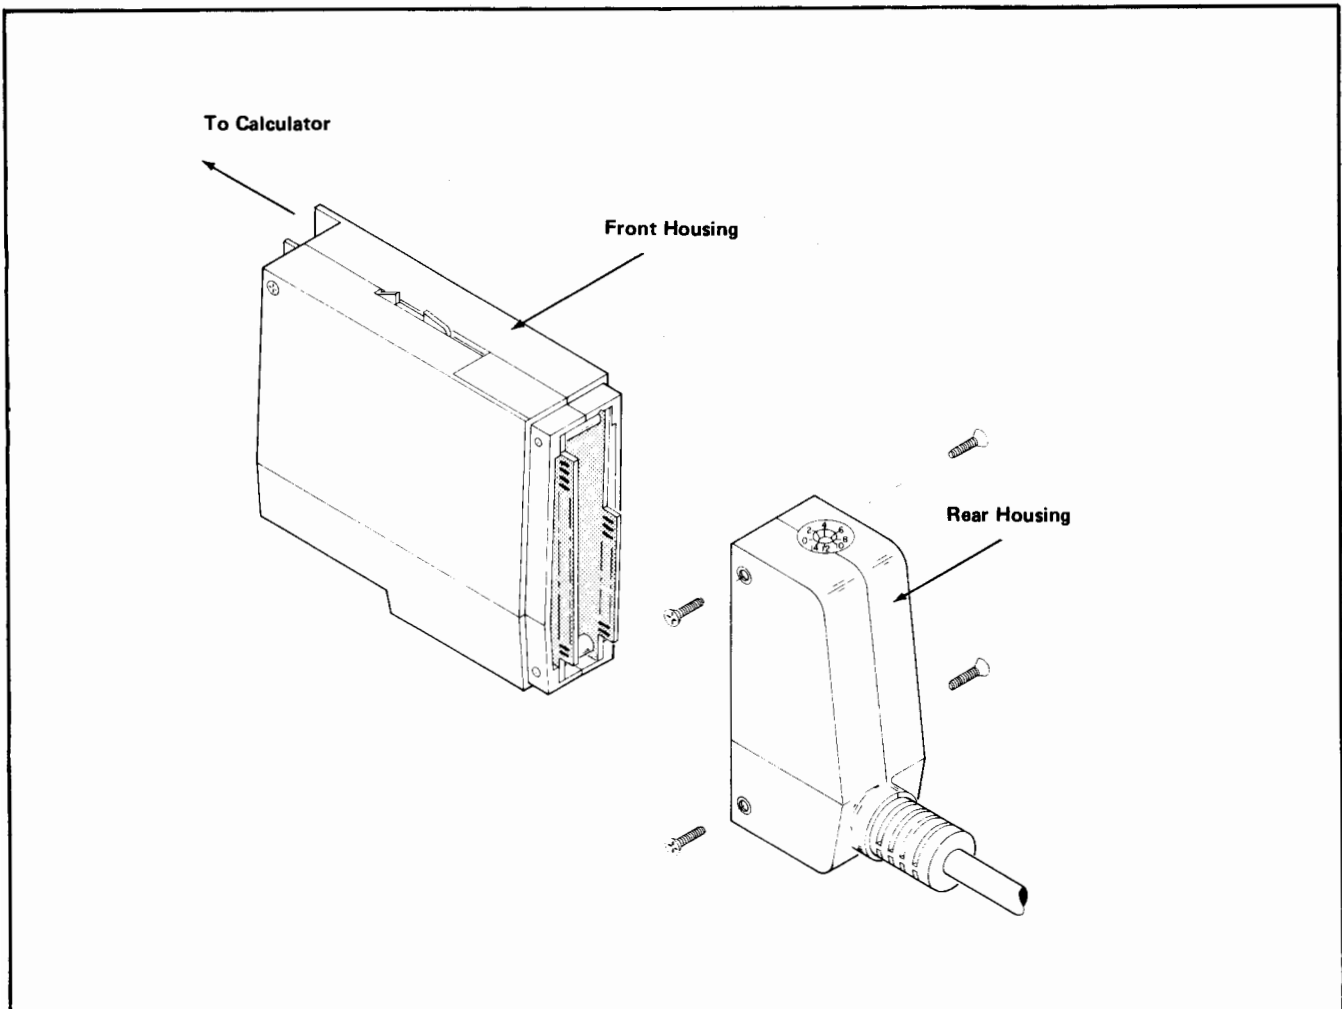

Figure G1-1 98032A Interface
1. Remove the four screws in the rear housing of the 98032, and separate both front and rear parts as shown in Figure G1-1.